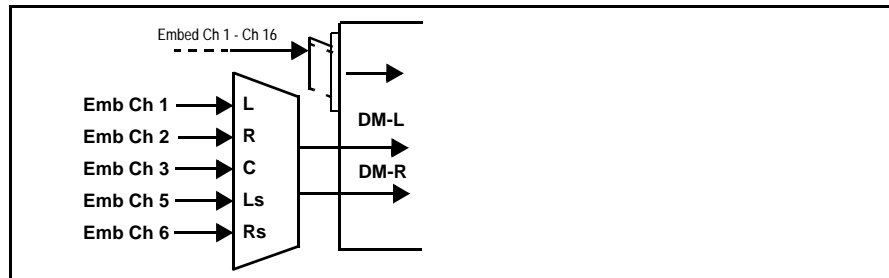

Figure 1-2 Audio Down Mix Functional Block Diagram with Example Sources
Input Audio Down Mix Function. (See Figure 1-2.) The Audio Down Mixer function provides for the selection of any five path embedded channels serving as Left (L), Right (R), Center (C), Left Surround (Ls), and Right Surround (Rs) individual signals to be multiplexed into stereo pair Down Mix Left (DM-L) and Down Mix Right (DM-R). The resulting stereo pair DM-L and DM-R can in turn be routed to any embedded audio bus pair as desired.